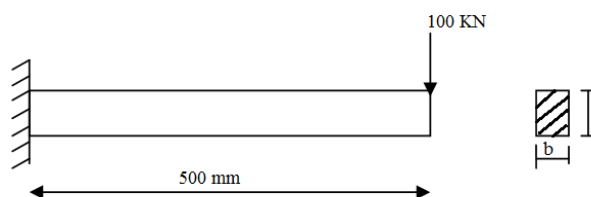

fig 2.
- 4 Calculate the deflection at the free end of the cantilever beam shown in fig 2. Take $E = 2 \times 10^5$ MPa; $b = 10$ mm, $d = 2b$.